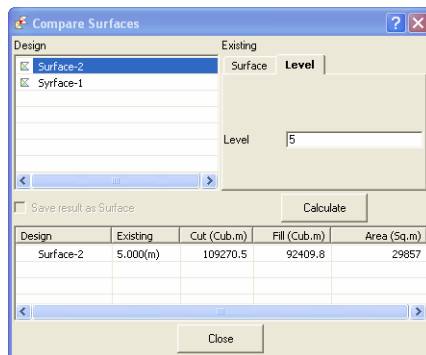

Figure 9-78. Compare Surface Results
4. View the results in the bottom pane (Figure 9-78):
5. Repeat as necessary for other surface pairs/ plane. The results of the comparison will display in the bottom pane (Figure 9-78).